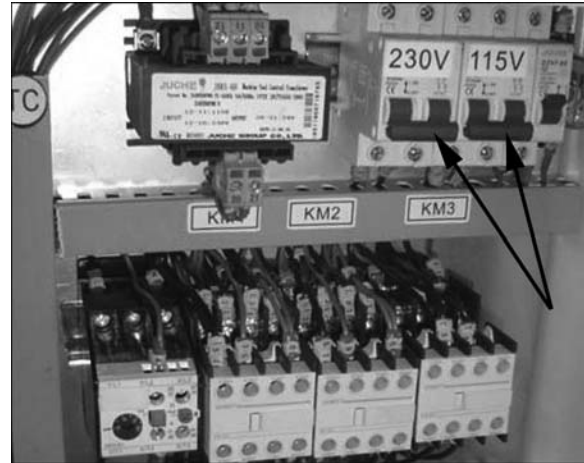

Figure 3
2. Open the control box, and pull down (shut off) the 230V breaker switch. Switch on the 115V breaker. See Figure 3.